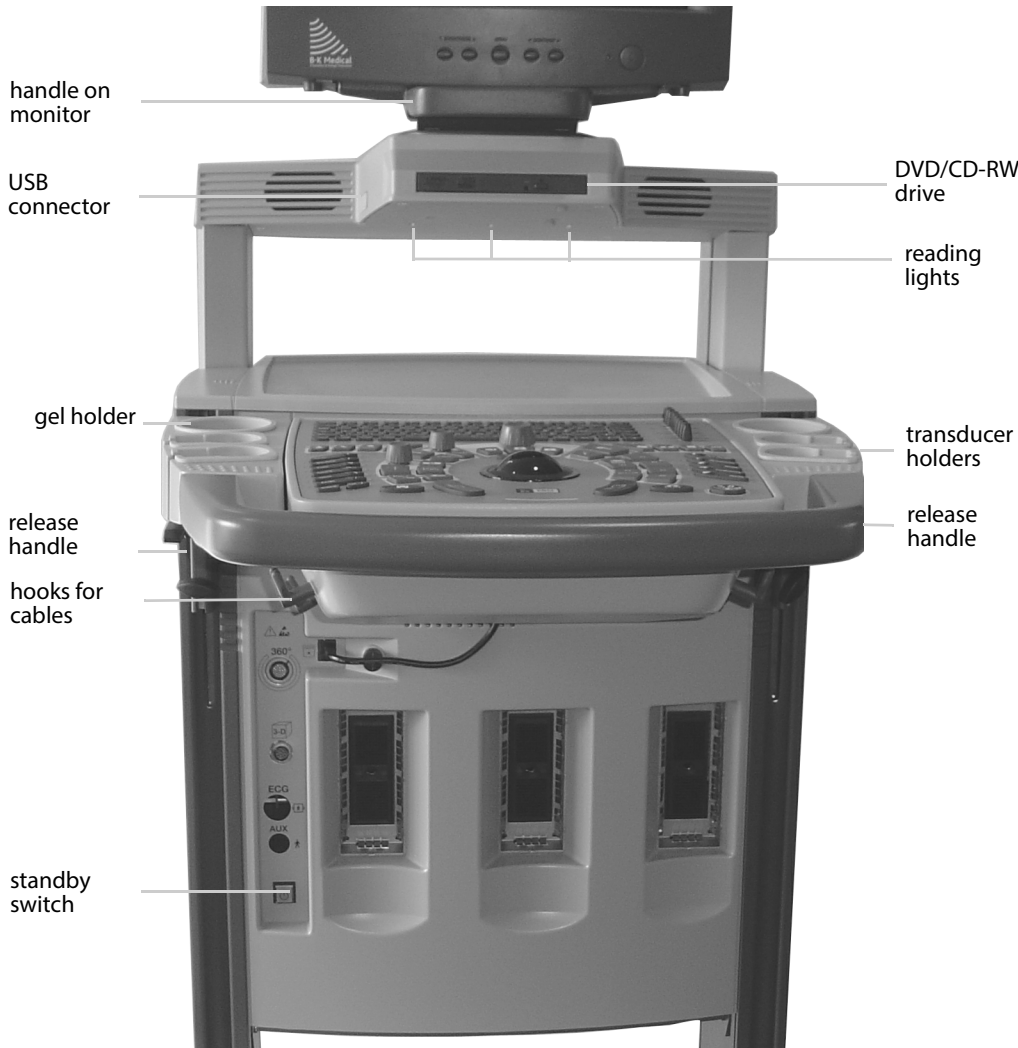

Figure 2-1. The front of the system.
- 1 Grab the panel on both sides and pull up on the two release handles (see Fig 2-1). Move the panel up or down.
After you have turned on the system, you can adjust the brightness of the 3 reading lights under the DVD drive. (See Fig 2-1.)